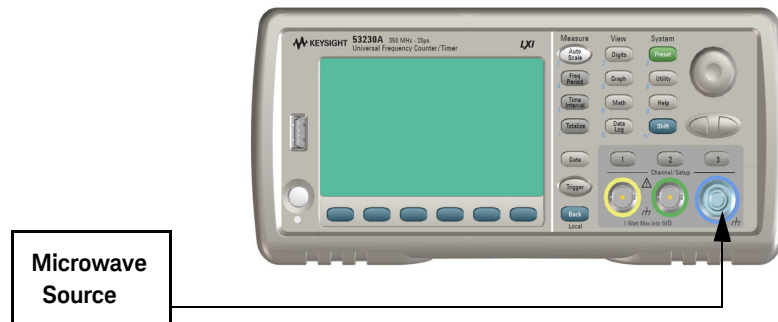

Figure 2-8 Microwave source connection to Channel 3
- 6 Connect the microwave frequency source to Channel 3 on the counter front panel. (Channel 2 for a 53210A.) See **Figure 2-8**.